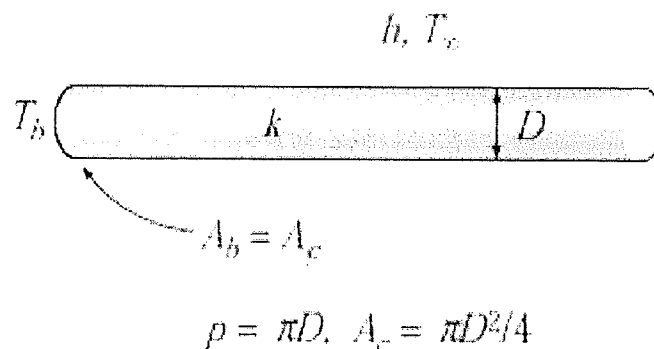

Figure 6 : Air fin for cooling oil tank
- [b] Obtain a relationship for the fin efficiency in Figure 6 below. The fin has a constant cross-sectional area A_c , perimeter p , length L , and thermal conductivity k exposed to convection to a medium at T_∞ with a heat transfer coefficient h . All variables are shown in Figure 6. Assume the fins are sufficiently long so that the temperature of the fin at the tip is nearly T_∞ . Take the temperature of the fin at the base to be T_b and neglect heat transfer from the fin tips. Simplify the relation for heat transfer for conditions below;